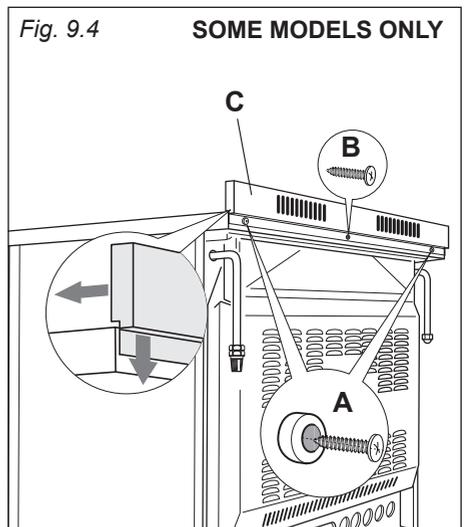

Fig. 9.4
Before installing the cooker, assemble the backguard "C" (fig. 9.4).
- Assemble the backguard as shown in figure 9.4 and fix it by screwing the central screw "B" and the spacers "A".